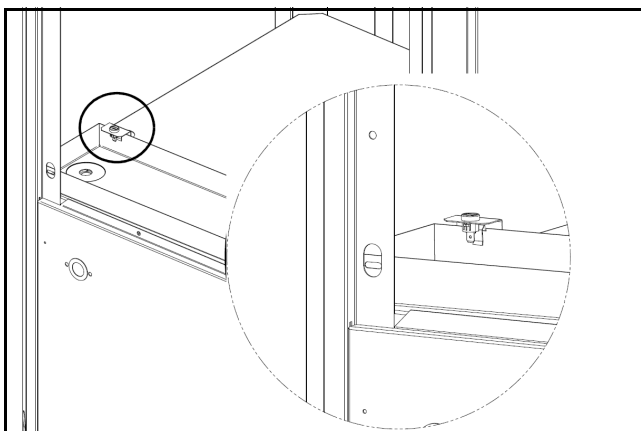

Fig. 8 Condensate Overflow Protection Sensor
- The condensate overflow protection sensor is located in the drain pan of the unit and connected to the “COND” terminal on the UPM board. (Refer to Fig. 8)